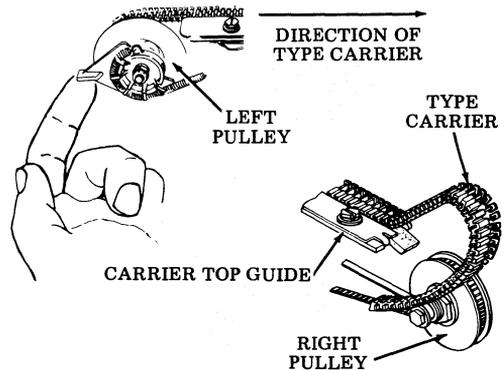

Fig. 39—Type Carrier Installation
(e) Position carrier over right pulley (Fig. 39).
- (c) Install type carrier starting at left pulley. Lift finger lever on left pulley and position carrier over right pulley (Fig. 39).